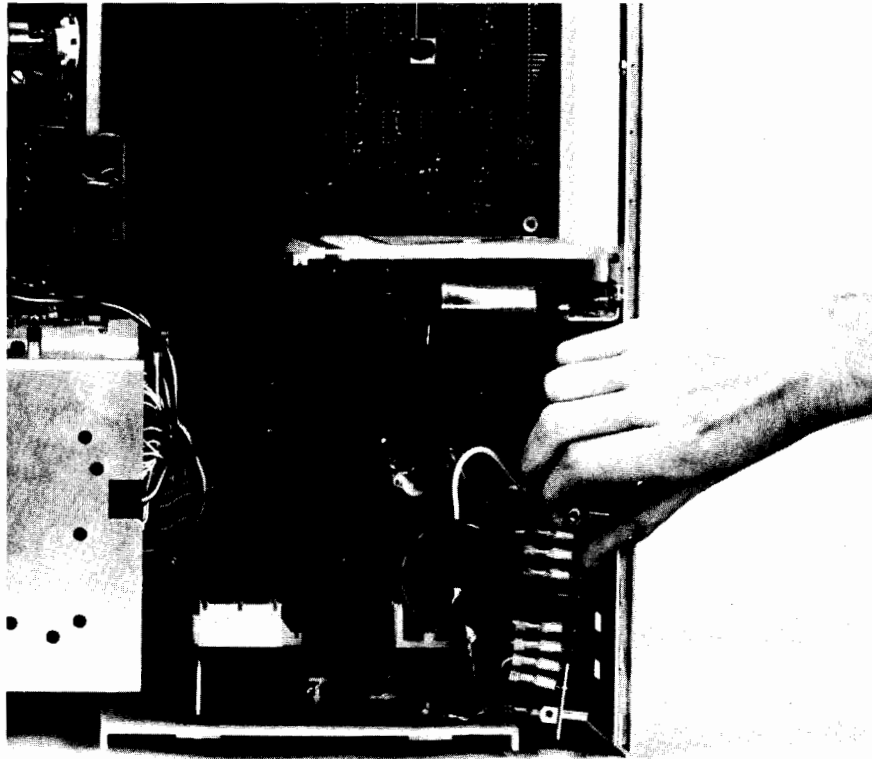

Figure 4-19. Removing the Rectifier Board
3. Remove the three screws fastening the rectifier board to the rear panel (see Figure 4-19).